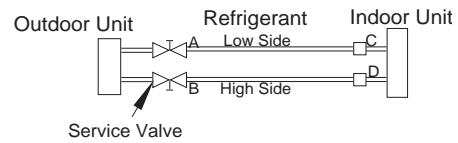

Fig. 19 – Service Valve
1. Completely tighten flare nuts A, B, C, D, connect manifold gage charge hose to a charge port of the low side service valve. (see Fig. 19).